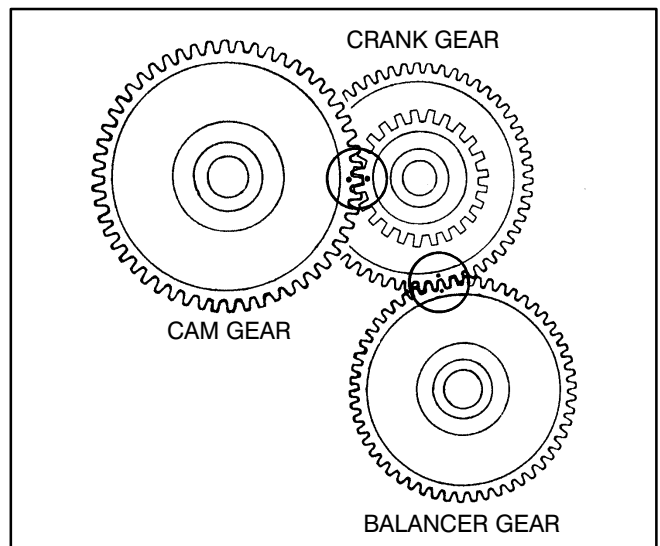

FIGURE 10-16. CAM, CRANK AND BALANCER GEAR ALIGNMENT
5. For installation, apply oil to the tappets and the tooth surface of the gears. Align the marks on the cam gear and crank gear and also on the balancer gear and crank gear as shown in Figure 10-16.